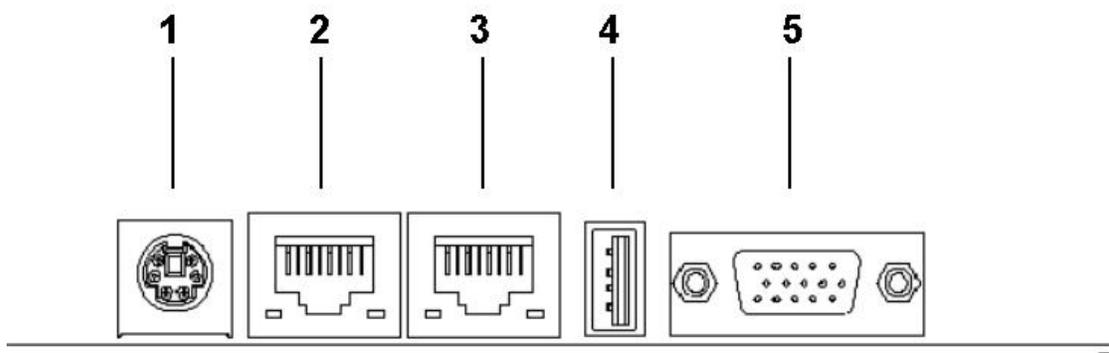

Figure 3-19: WSB-9152 CPU card Rear Panel
Figure 3-19 shows the WSB-9152 CPU card rear panel. The peripheral connectors on the back panel can be connected to devices externally when the CPU card is installed in a chassis. The peripheral connectors on the rear panel are:
CN Location: See Figure 3-19 (labeled number 1)
- CN Location:** See Figure 3-19 (labeled number 4)
- CN Location:** See Figure 3-19 (labeled number 2 and number 3)
CN Location: See **Figure 3-19** (labeled number 7)